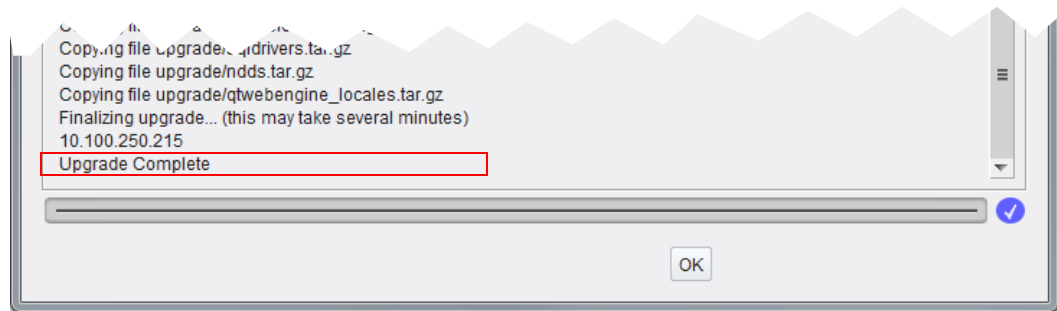

Figure 111 Software Upgrade Complete
13. The software upgrade is done when the Upgrade log messages say “Upgrade Complete”, see Figure 111. This will take 2 to 3 minutes.